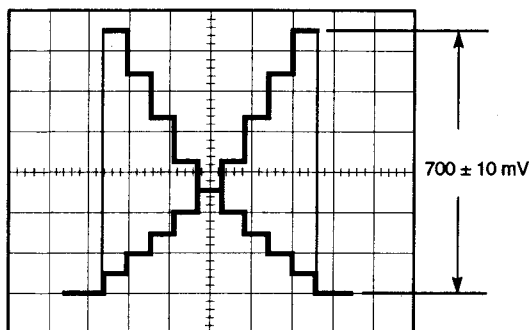

Fig. 5-1-27
- Adjust VR104 so that the Video signal level becomes  $700 \pm 10$  mV as shown in Fig. 5-1-27.
- Adjust VR204 so that the Video signal level becomes  $700 \pm 10$  mV as shown in Fig. 5-1-27.
- Adjust VR304 so that the Video signal level becomes  $700 \pm 10$  mV as shown in Fig. 5-1-27.